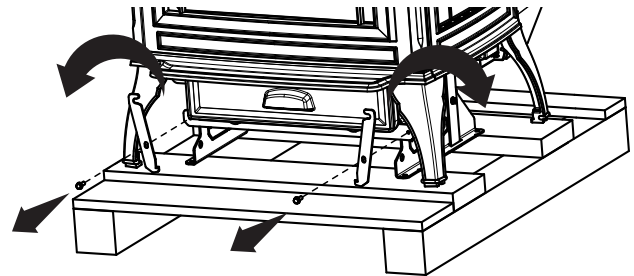

Figure 6.1
- Using 3/8 socket or wrench remove both front bolts from pallet mount brackets. Front pallet mount brackets will slide outwards away from appliance (**Figure 6.1**).